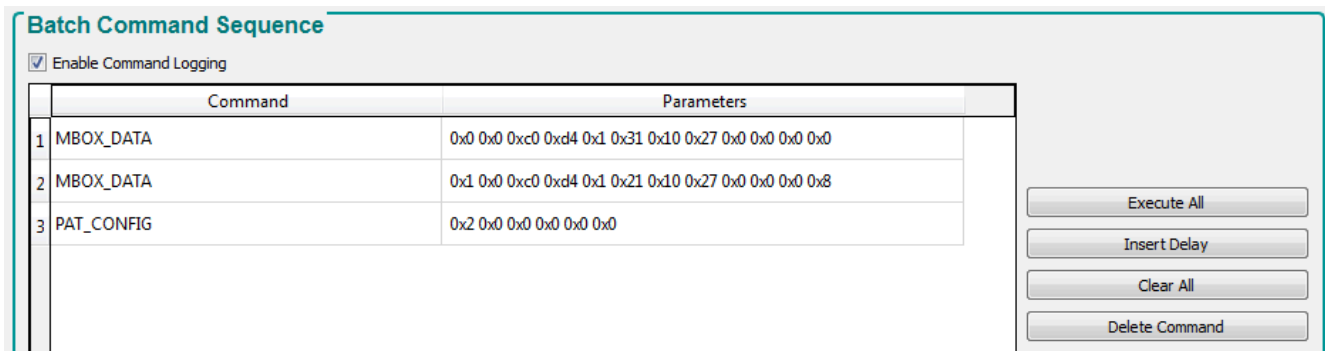
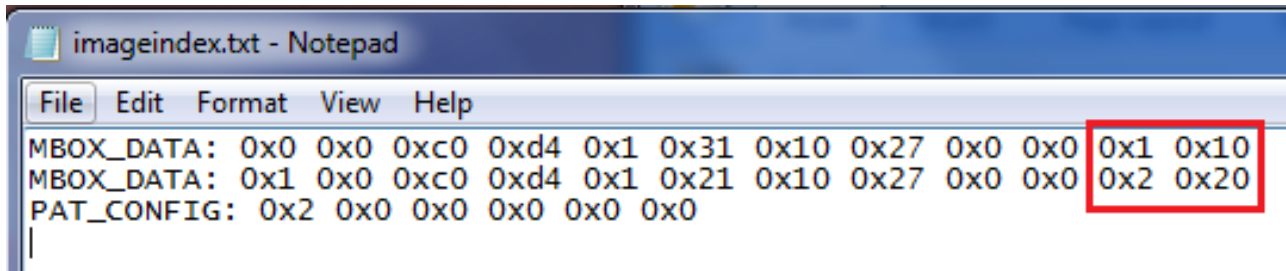

Figure 4-24. Pattern LUT Definition and Configuration
Figure 4-25. Updating the Index and Bit Position
10. Figure 4-24 shows the *Pattern LUT Definition* and *Configuration* of the pattern sequence.
16. Use Notepad or a similar editor to open and edit the batch file saved in step 11. The file is typically stored in the folder named *C:\Texas Instruments-DLP\DLPC900REF-SW-5.0.0\DLPC900REF-GUI\Images and Batch files*, then *LCR[DMD]_Images* folder depending on which DLPC900 DMD EVM is being used. Change the image index and bit position as seen in Figure 4-25. See the DLPC900 Programmer's Guide (DLPU018) for details of the *Pattern LUT Definition* and *Configuration* commands.
17. Figure 4-25 shows the image index and the bit position of the images for the two patterns, where the values have been changed compared to the values in Figure 4-24. Click the *Save* to save the new batch file.